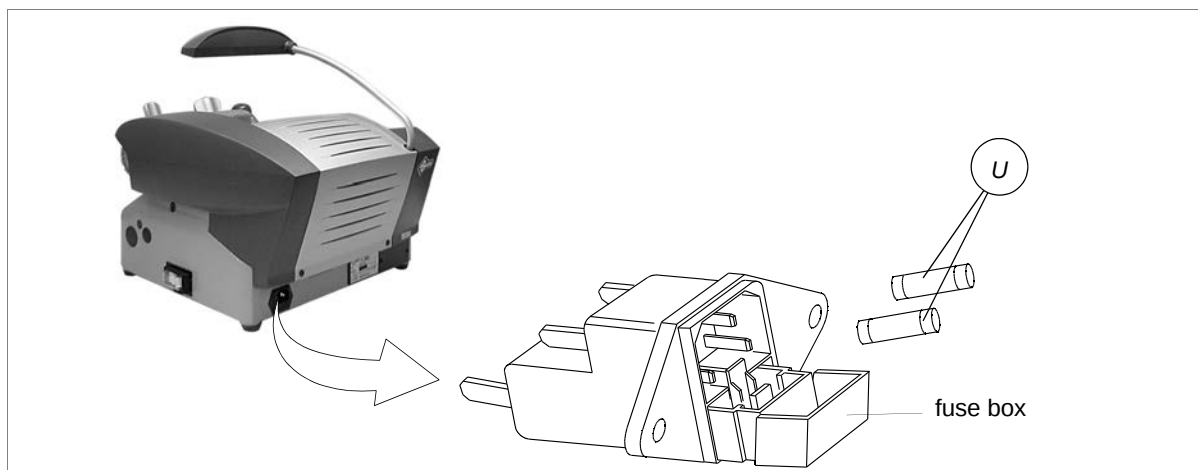

Fig. 32
- 3) Remove the fuses box placed below the key-cutting machine socket (fig.32).
- 4) Replace the fuses (U).